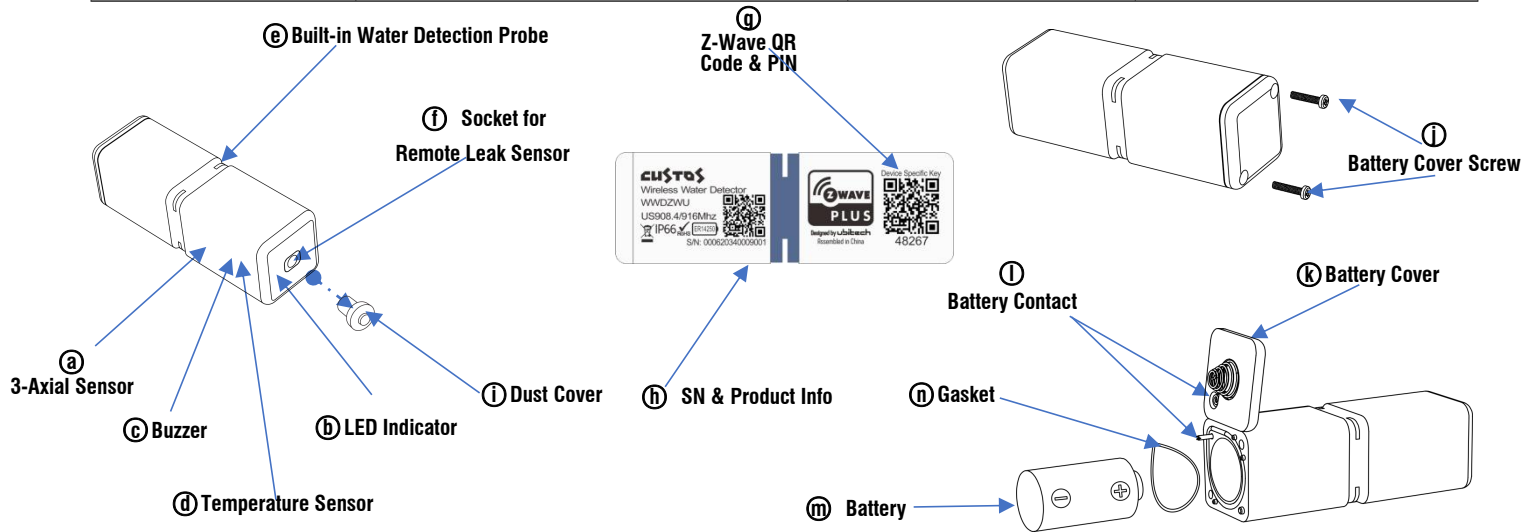

Figure 3B
- 3.2 Remote Water Detection Probe x 1 (Optional) “Figure 3B”**